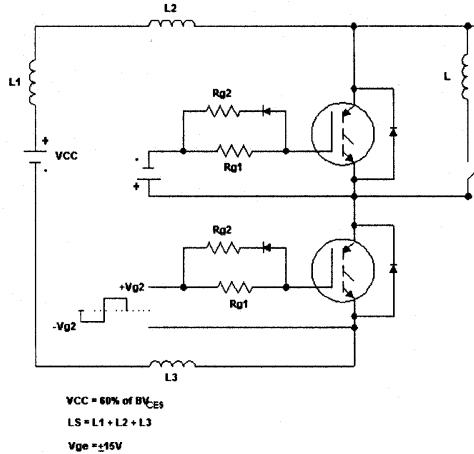

Fig. 17 - Test Circuit for Measurement of I_{LM} , E_{on} , E_{off} (diode), t_{rr} , Q_{rr} , I_{rr} , $t_d(\text{on})$, t_r , $t_d(\text{off})$, t_f
- ① Repetitive rating; $V_{GE} = 20V$, pulse width limited by max. junction temperature.
- ② See fig. 17
- ③ For screws M5x0.8
- ④ Pulse width 80 μ s; single shot.